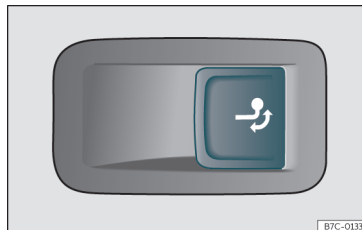

Fig. 243 Right side of the boot: button to unlock the tow hitch.
- Pull the »» **Fig. 243** button briefly. The tow hitch unlocks electrically and automatically turns outwards. The control lamp in the button will flash »» **Fig. 243**.
- Pull the >>> **Fig. 243** button briefly. The tow hitch unlocks electrically.
- Turn the tow hitch under the bumper with your hand until you feel and see that it engages and the control lamp on the >>> **Fig. 243** button stays on.
- If the warning light of the button >>> **Fig. 243** is *flashing*, this means that the tow hitch has not been attached properly or is damaged >>> .
- Never press the >>> **Fig. 243** button when there is a trailer hooked to the vehicle or when a carrier system or other accessories are mounted on the tow hitch.